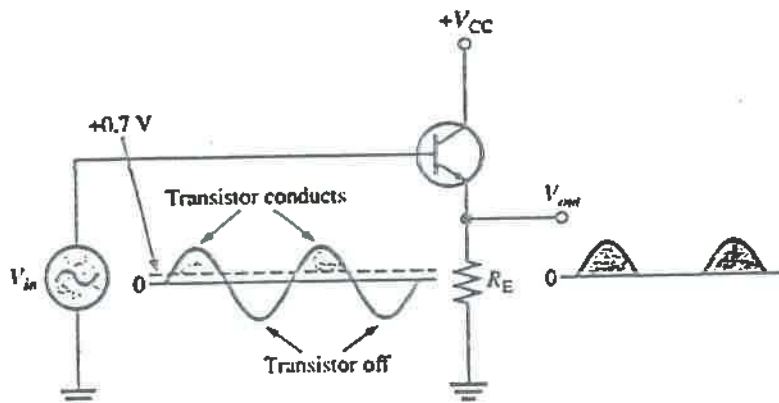

FIGURE 7-19
**The Q-Point Is at Cutoff** The class B amplifier is biased at the cutoff point so that  $I_{CQ} = 0$  and  $V_{CEQ} = V_{CE(cutoff)}$ . It is brought out of cutoff and operates in its linear region when the input signal drives it into conduction. This is illustrated in Figure 7-19 with an emitter-follower circuit. Obviously, the output is not a replica of the input. Therefore, a two-transistor configuration, known as a **push-pull amplifier**, is necessary to get a sufficiently good reproduction of the input waveform.